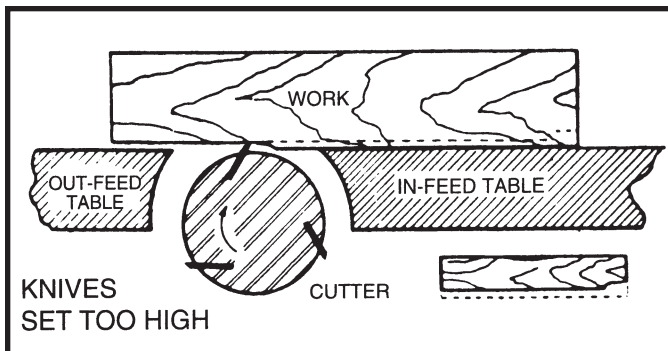

Fig. 30
8. If the knives are set too high, the work will be gouged at the end of the cut, as shown in Fig. 30.